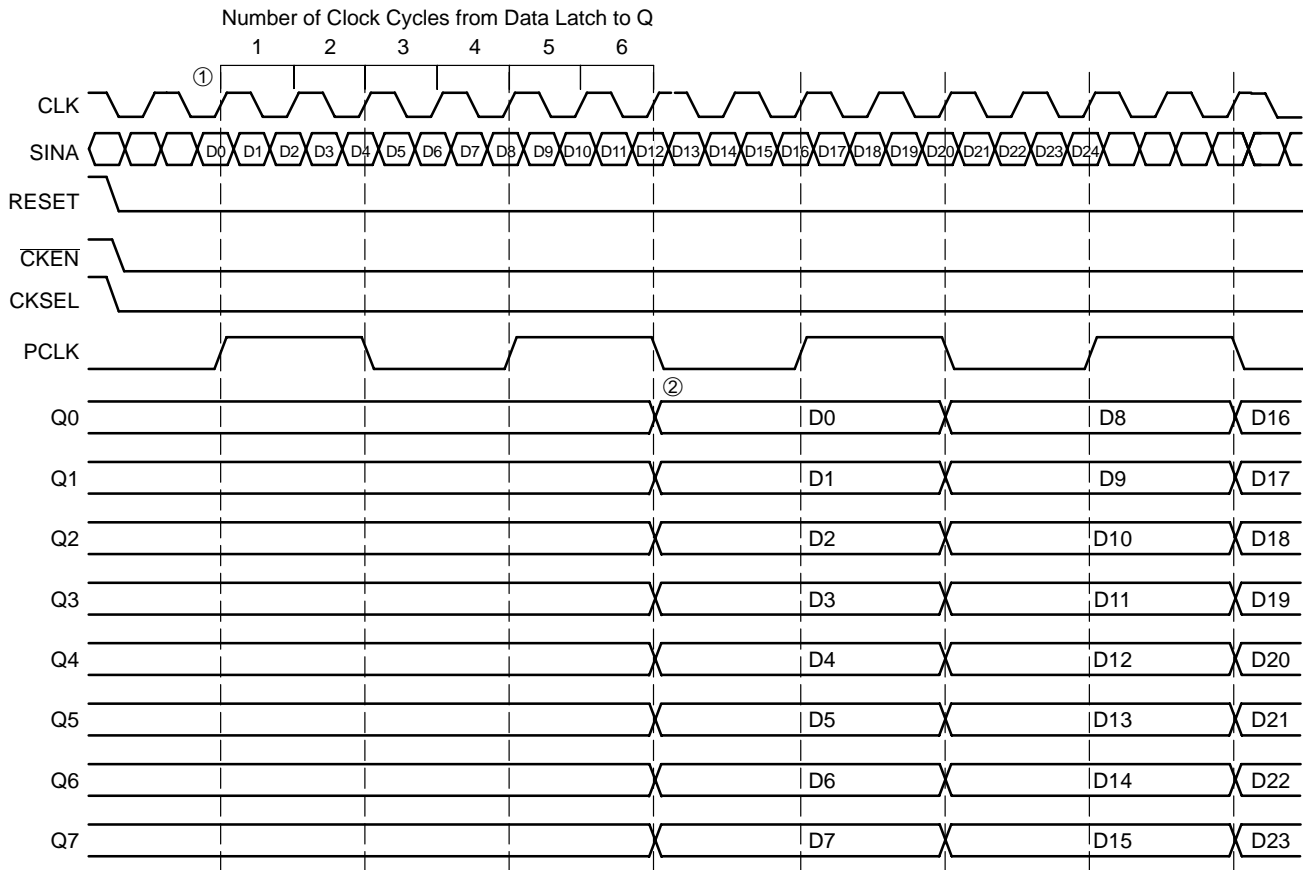

Figure 7. Timing Diagram A. 1:8 Serial to Parallel Conversion with CKSEL LOW
For CKSEL LOW operation, the data is latched on both the rising edge and the falling edge of the clock and the time from when the serial data is latched① to when the data is seen on the parallel output② is 6 clock cycles (see Figure 7).